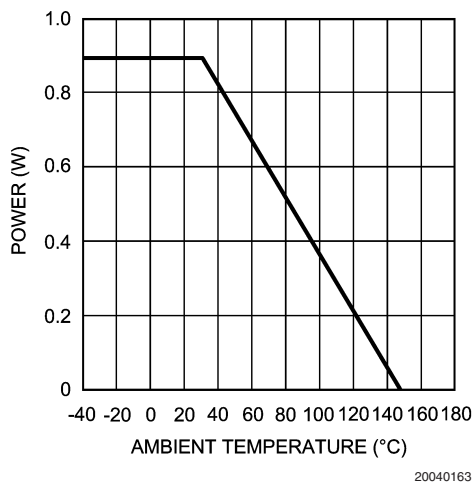

FIGURE 12. Power Derating Curve
3. Calculate the total RMS power:  $P_t = P_{amp}+P_O$ . The maximum power that the SOIC package can dissipate at a given temperature is illustrated in *Figure 12*. The power derating curve for any LMH6718 package can be derived by utilizing the following equation: